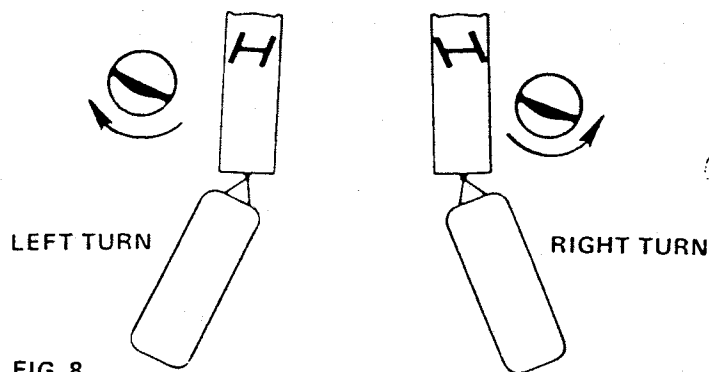

FIG. 8
**BACKING** — Place hand at the bottom of the steering wheel. Move wheel in the direction you want the trailer to go (FIG. 8).